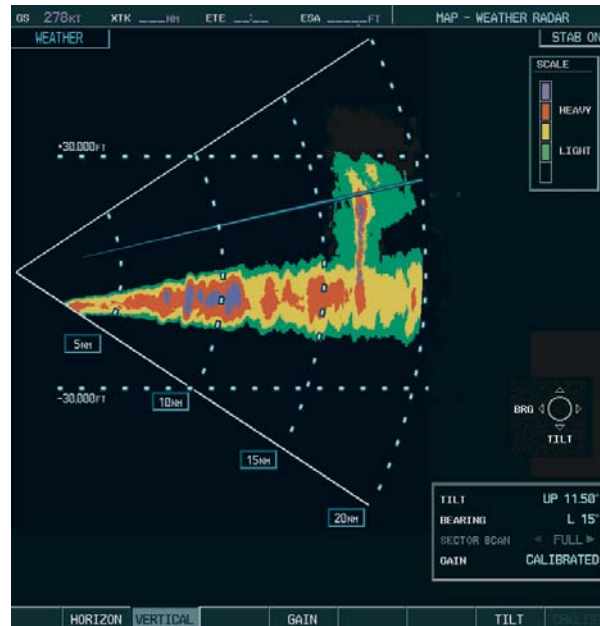

Figure 6-106 Vertical Scan Display
- 4) Select the **VERTICAL** Softkey. A vertical scan of the selected area is now displayed (Figure 6-106).